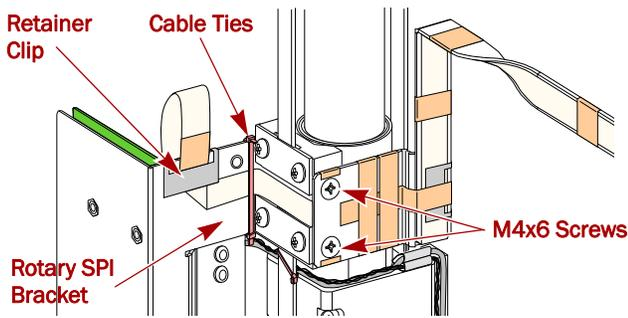

Figure 6. Key Components on Rear Z-Axis Assy. (Front View)
3. Remove the metal **retainer clip** holding the shuttle cables to the Rotary SPI bracket (Figure 6).